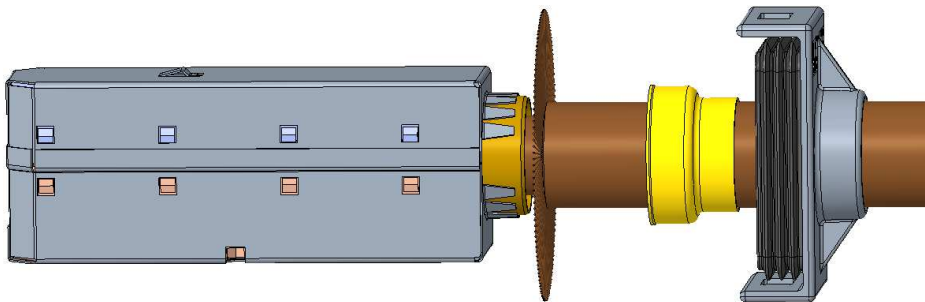

Figure 10: Raising screening braid
- Hex or Round crimp dimensions per figure 10 and table 8